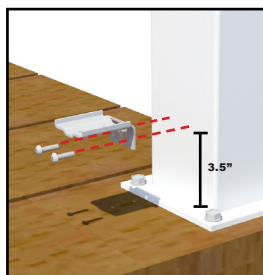

Fig. 3
- Slide on the post cover. Measure and mark 3.5" from the top of the plate. Fasten the mounting "L" bracket to the center of the post using the two outside holes only. (See Fig. 3 & 4)
- The Bracket must be mounted in the middle of the pvc cover with the screws located at 3.5" from the top of the plate. (See Fig. 3)